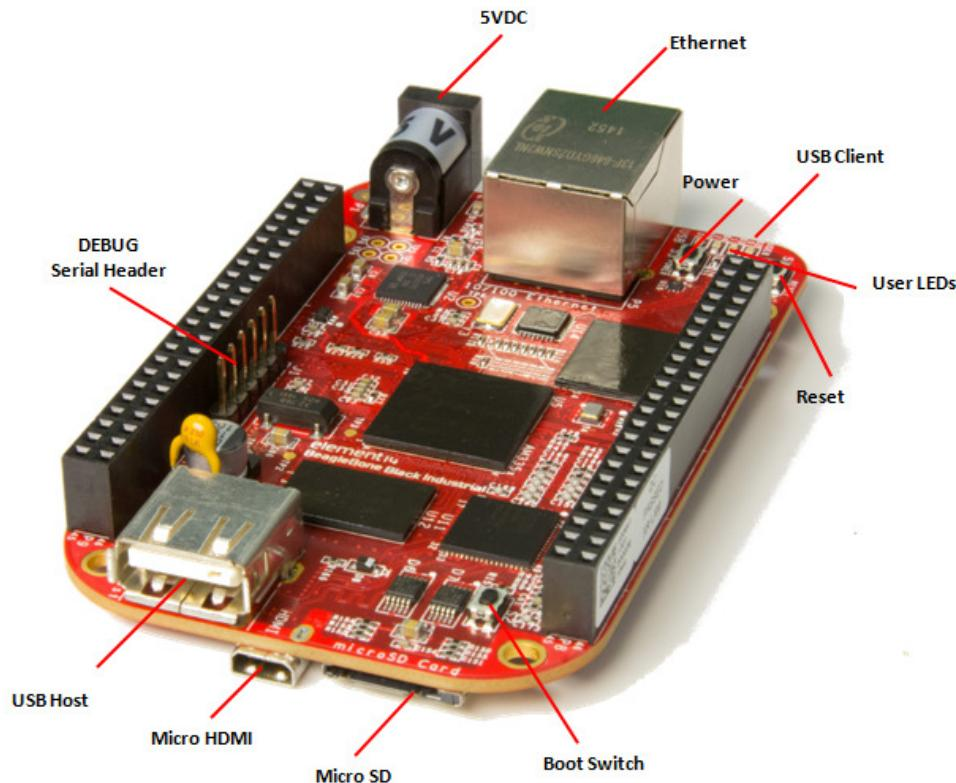

Figure 17      Connectors, LEDs and Switches
**Figure 17** below shows the locations of the connectors, LEDs, and switches on the PCB layout of the board.